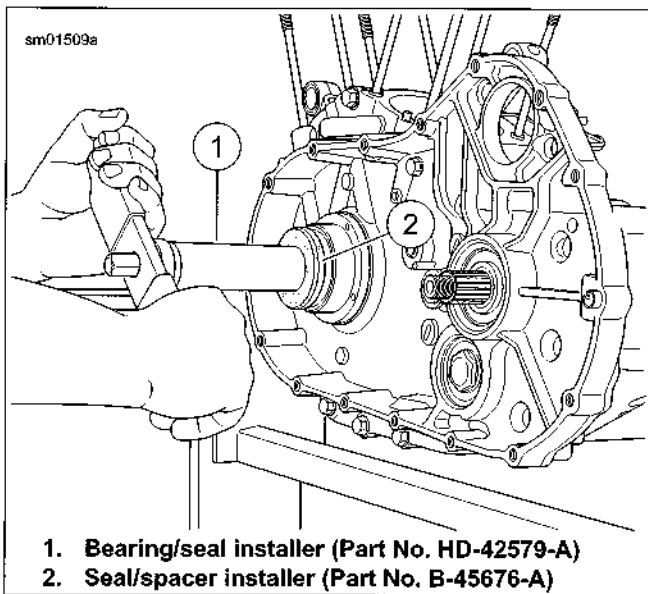

Figure 3-119. Install Bearing Seal/Spacer
8. See Figure 3-119. Install bearing seal and spacer.
- a. Center seal/spacer driver (2) over seal, so that the sleeve (smaller O.D.) seats between seal wall and garter spring.
- b. Assemble SPROCKET SHAFT BEARING/SEAL INSTALLATION TOOL (Part No. HD-42579-A) (1) and SPROCKET SHAFT SEAL/SPACER INSTALLER (Part No. B-45676-A) onto sprocket shaft.